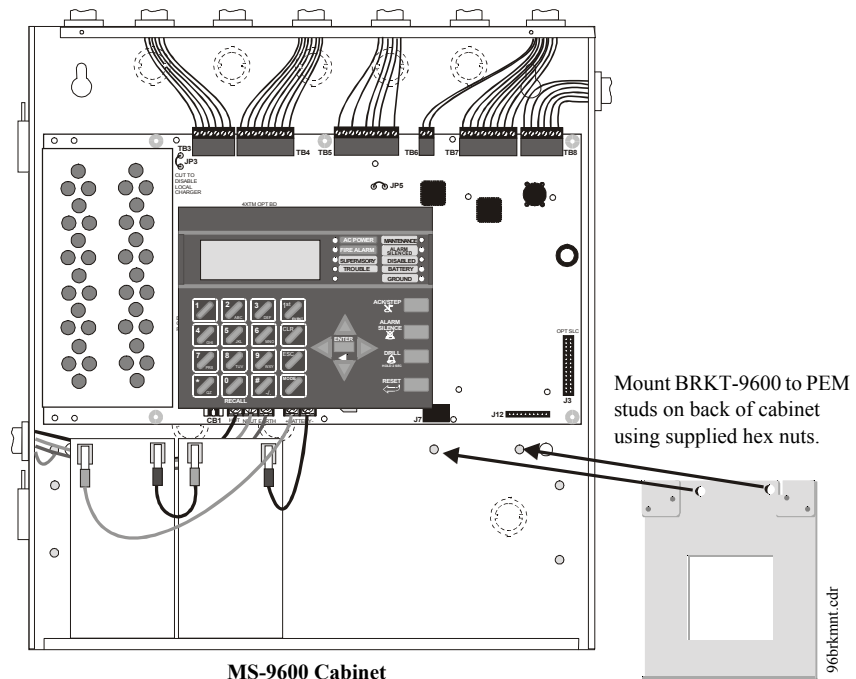

Figure 2.13 BRKT-9600 Bracket Installation
1. Install the two supplied standoffs in location (A) as indicated in Step 1 of the following illustration
5. Install a maximum of two 12 Amp Hour batteries with the orientation illustrated in Figure 2.13. Larger batteries require a separate UL listed battery box